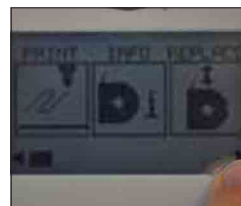

Fig. 45
4. Select the ‘Print’ option from the main menu. (Fig. 45)